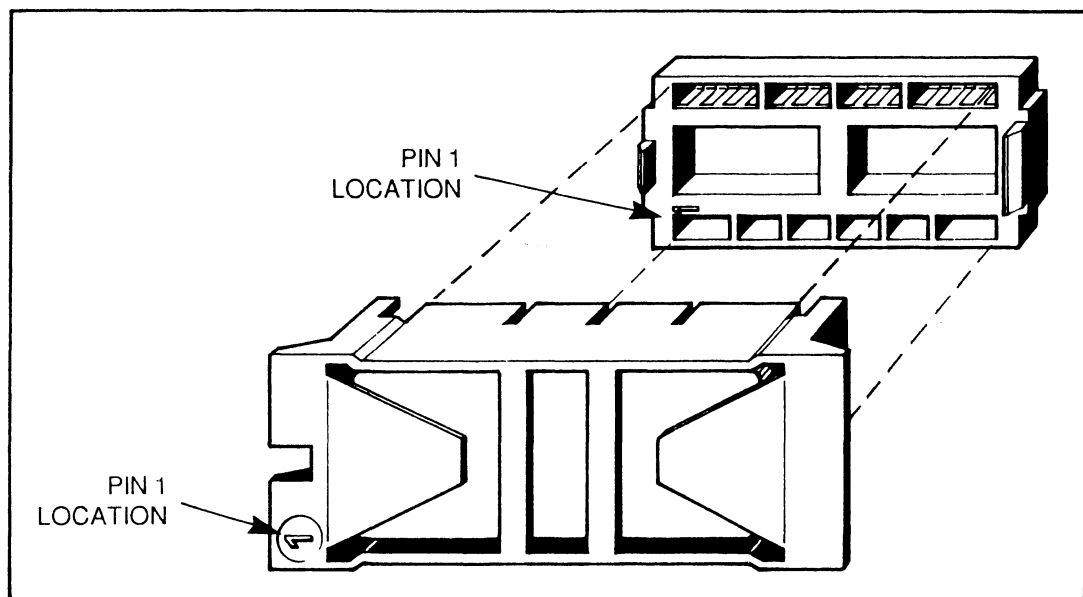

Figure 2-4. Installing the Firmware Chip
4. Install the replacement firmware chip into the socket, orienting pin one of the chip holder to pin one of the socket, as shown in Figure 2-4, below. Apply gentle, even pressure, and be sure that no pins are bent or out of alignment in the sockets.